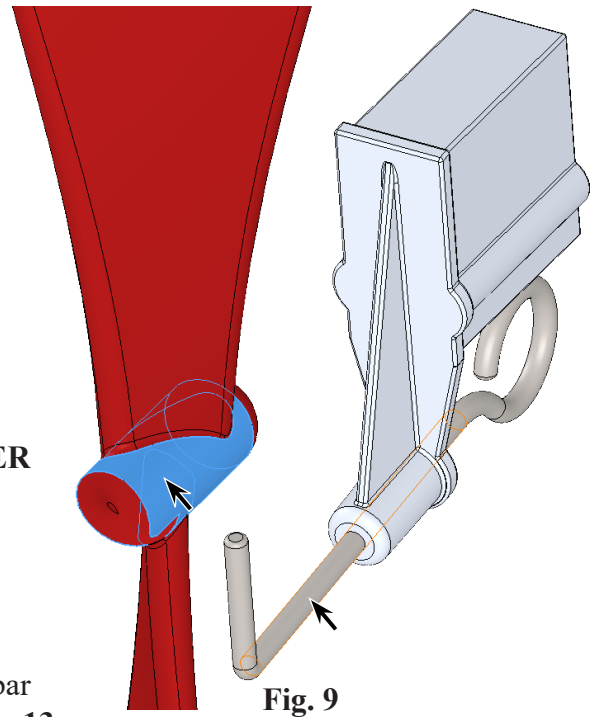

Fig. 9
Step 2. Click **inside cylindrical face of Propeller hub** and **cylindrical face of horizontal section of Wire**, Fig. 9. Click Add/Finish Mate  to add **Concentric** mate.